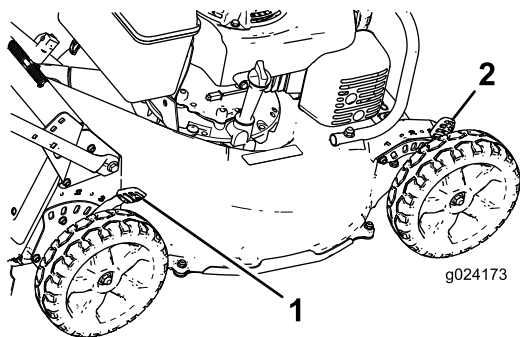

Figure 12
1. Pull the cutting-height lever toward the wheel (Figure 12) and move the lever to the desired setting.